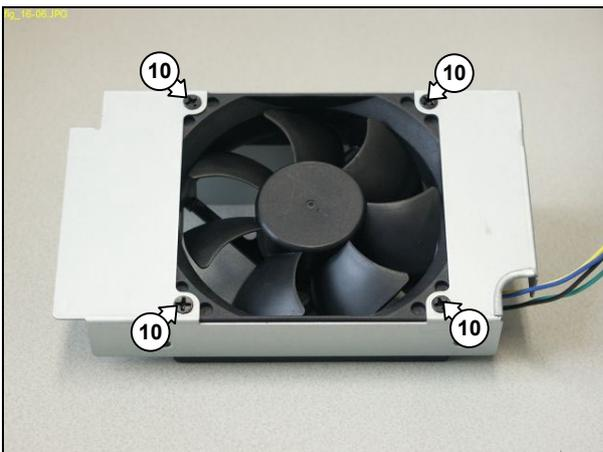

Figure 12.14-6
2. Remove the 4 mounting screws (10) from the CPU fan. See Figure 12.14-6.